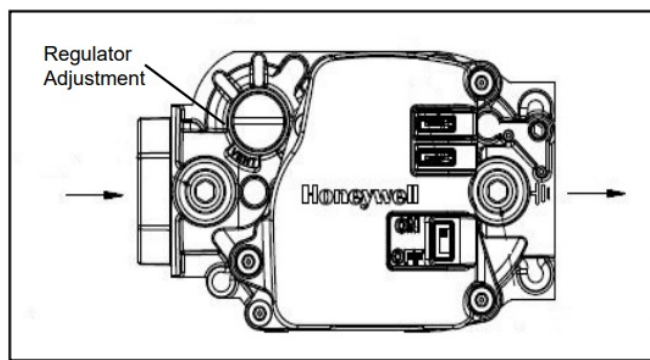

Figure 7. Gas Valve
3. Slide the gas valve switch to the "ON" position (see Figure 7).
2. Slide the gas valve switch to the "OFF" position (see Figure 7).
The manifold pressure can be measured by shutting off the gas, removing the pipe plug in the downstream side of the gas valve, and connecting a water manometer or gauge. **Under no circumstances should the final manifold pressure vary more than 0.3" w.c. from the above-specified pressures.** To adjust the regulator, turn the adjusting screw on the regulator clockwise to increase pressure and input or counterclockwise to decrease pressure and input. See Figure 7 to assist in locating the regulator on the gas valve.
1. Slide the gas valve switch to the "OFF" position (see Figure 7).